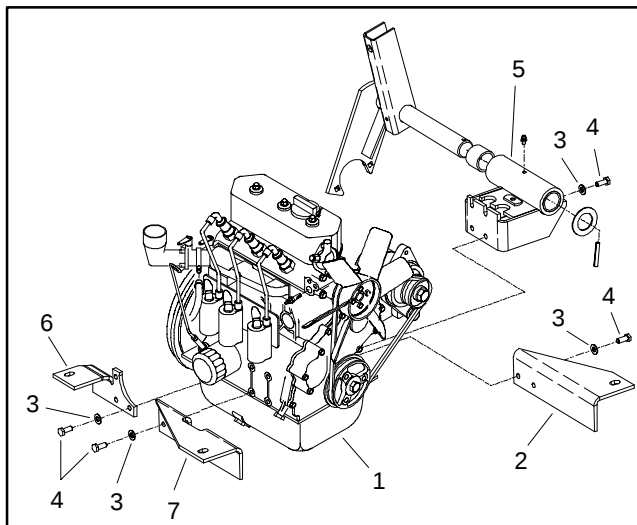

Figure 15
17. If necessary, remove engine brackets from engine (Fig. 15).
- 3. If engine brackets were removed from the engine, reinstall them to engine (Fig. 15).
- 4. If engine mount brackets (items 20 and 28) were removed from frame, secure them to frame with cap screws and lock washers. Torque screws from 50 to 60 ft-lb (68 to 81 N-m).